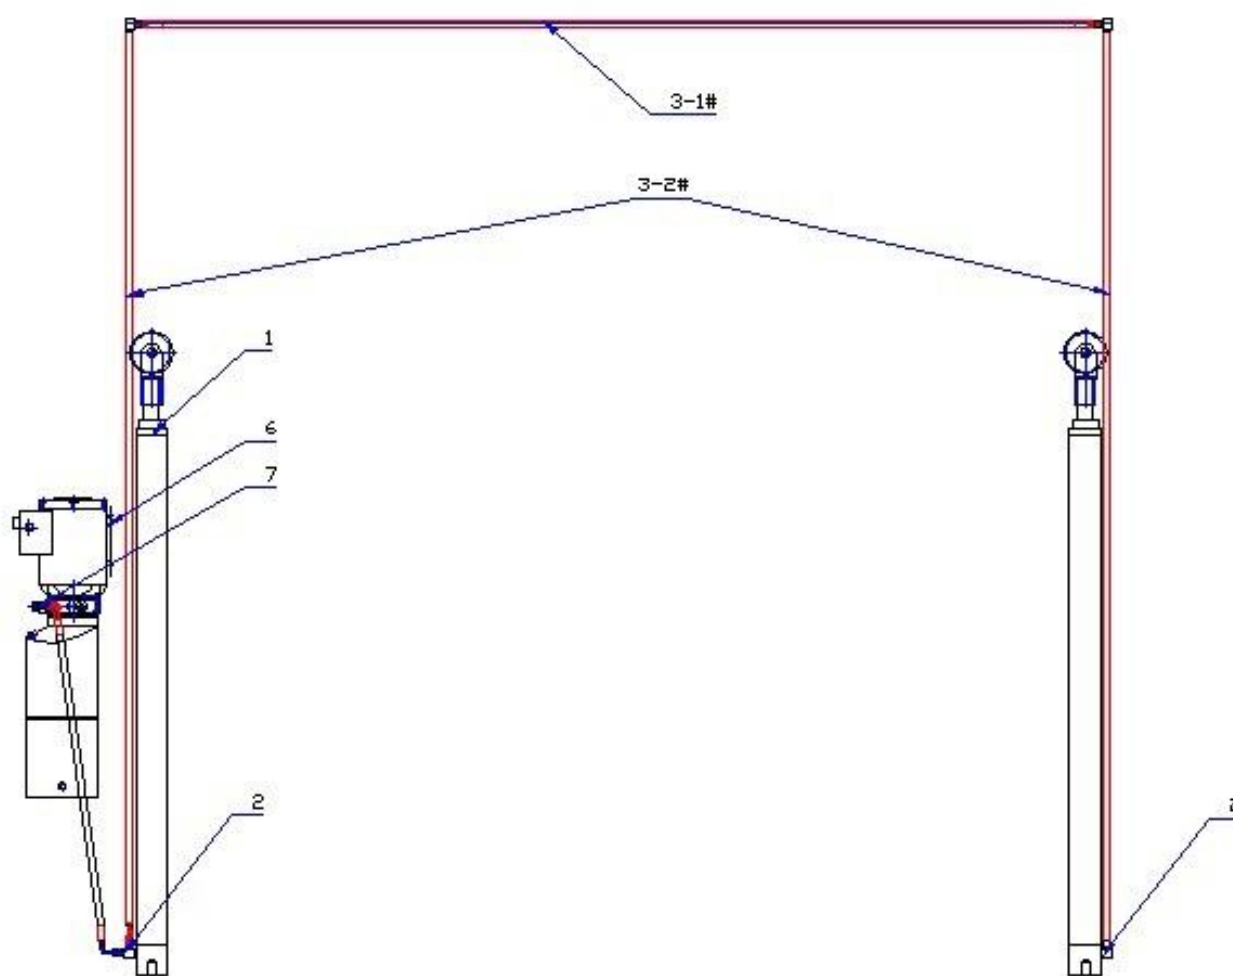
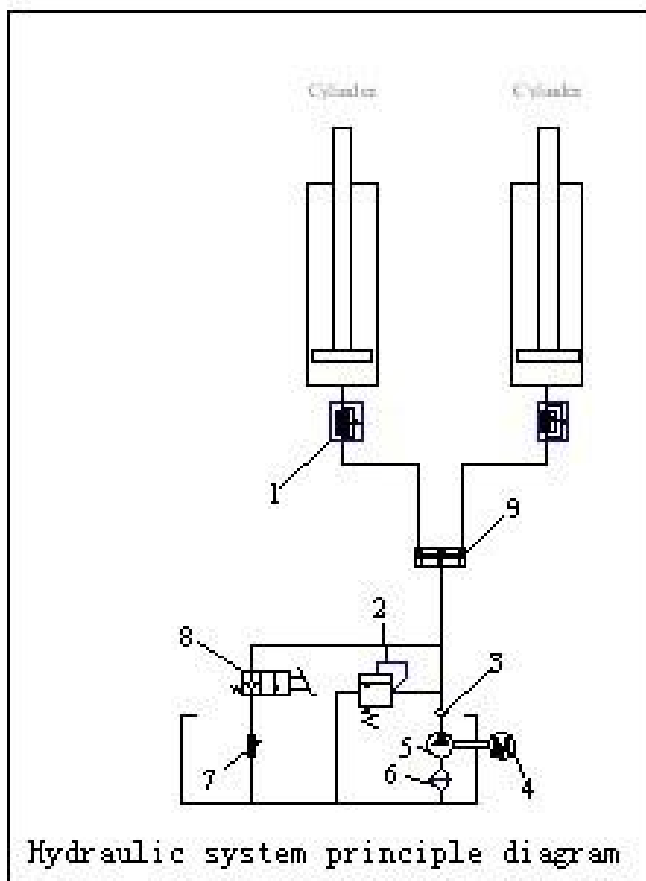

Figure 5-1 Hydraulic System
Figure 5-2 Hydraulic System Principle Diagram
*Connect the high-pressure oil pipe (protect the pipe connecting end and let no soil into the pipe) according to the oil-pipe connecting method of "Connecting diagram of hydraulic system" (see Fig.5-1)*
Open the valve under no-load situation, like the one in Figure 5-1, press the UP button, and then press the DOWN button (Remarks: open the valve to release the air in the cylinder when lifting down, close the valve when lifting up), repeat several times until the air is completely released. You can normally operate the lift after these steps.
The hydraulic system is installed in the control panel. Open the front cover to see like the Figure 4, pump, motor, circuit board, valve and the oil channel connecting as the Figure 5-1. The working principle of hydraulic system is shown in the Figure 5-2; Adjust the throttle valve to change the low pressure oil supply quantity, adjust the release valve to change the system pressure (already set by manufacture) and lifting capacity (Remarks: not allowed to rated oil pressure 16Mpa )